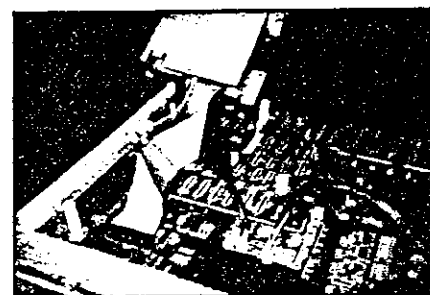

Fig. 2-11. Drive Cable Locations
**2.5.4** Lift the drive away from the PCB and disconnect the ground wire at T4. See Fig. 2-11.